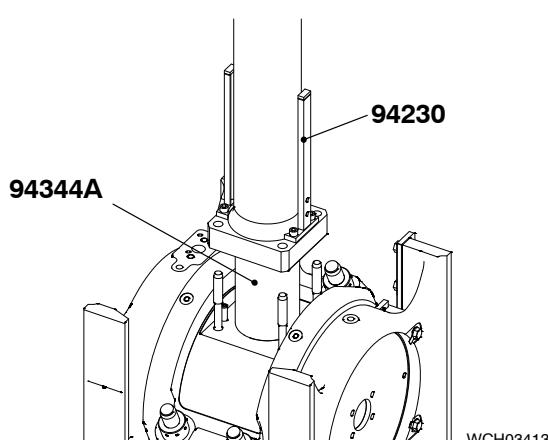

Fig. 5
- 11) Put the spacer (94344A, Fig. 5) on the crosshead pin.
- 14) Attach the distance holders (94230, Fig. 5) to the piston rod foot.